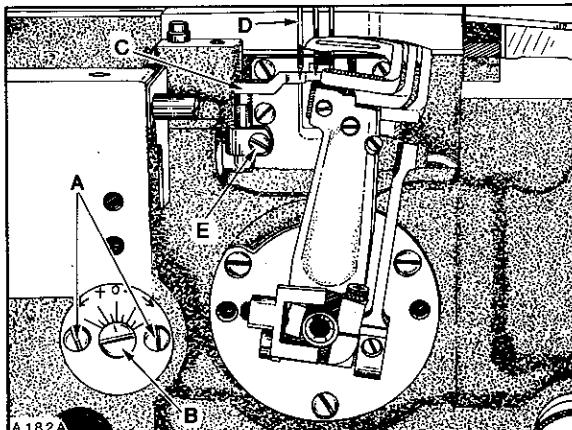
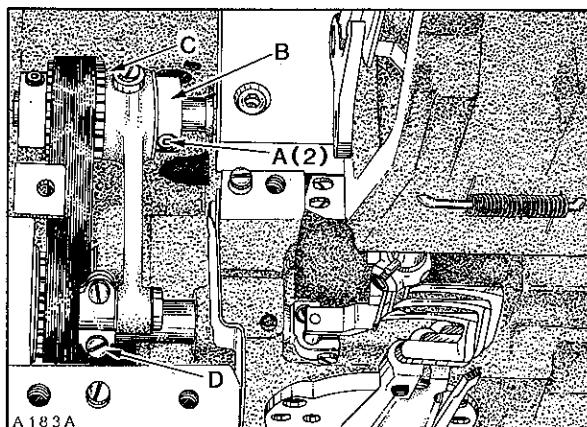

Fig.13
Fig.14
Machine is equipped with a quick adjustable looper avoid mechanism to accommodate extreme differences in needle sizes. As the looper travels from left to right with needle bar descending, the needle points should contact ONLY the lower THIRD of the back of looper blades. If looper avoid requires re-setting, loosen two screws (A, Fig. 13) and turn eccentric stud (B) towards the plus side (counterclockwise) for MORE looper avoid or towards the minus side (clockwise) for LESS looper avoid. When desired setting is acquired, tighten screws (A).
Rotate handwheel in operating direction to position looper points at the RIGHT hand side of needles. At this time the needle guard (C, Fig. 13) should be at its EXTREME END of FORWARD travel. Adjustment can be made by loosening two screws (A, Fig. 14) and turn needle guard eccentric (B) slightly as required until this condition exists. Ensure .002 inch (.051mm) clearance between needle guard eccentric (B) and looper drive sprocket (C) while tightening screws (A) securely.
At extreme forward end of travel, rear needle guard (C, Fig. 13) must be set horizontally not to contact needles (D) with a MAXIMUM clearance of .002 inch (.051mm). Guard should be set as low as possible, yet have its vertical face approach approximately 3/64 inch (1.2mm) of needle points until point of loopers moving to the left, are even with the right side of needles. Adjustment can be made by loosening screw (E), reposition needle guard as required and retighten screw.
If additional front to rear adjustment is required to maintain needle guard in a horizontal position, loosen screw (D, Fig. 14) in pivot link which allows needle guard shaft to be rotated. Be sure to take up thrust, by exerting pressure against needle guard holder to the left and pivot link to the right, when tightening screw (D).